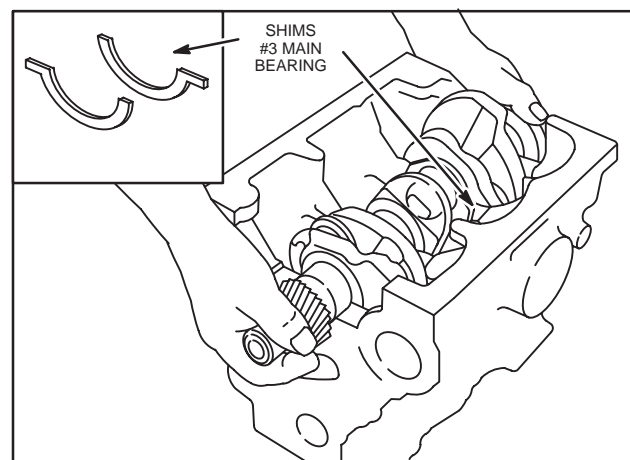

Fig. 8 – Removing Crankshaft
11. Remove crankshaft, Fig. 8.